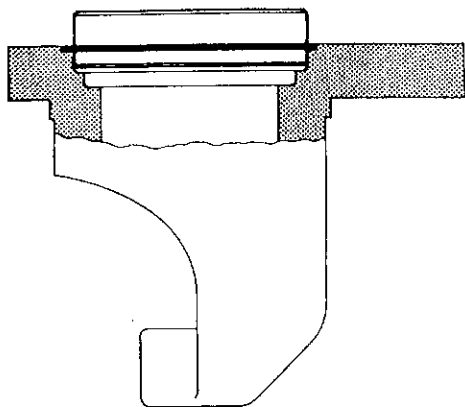

Figure 3.25
22. Pack drive housing bearing (36) with Lithium base general purpose grease.
23. Install retaining ring (32) on drive housing bushing (31) and insert short end of bushing into drive housing adapter (33). See Figure 3.25.